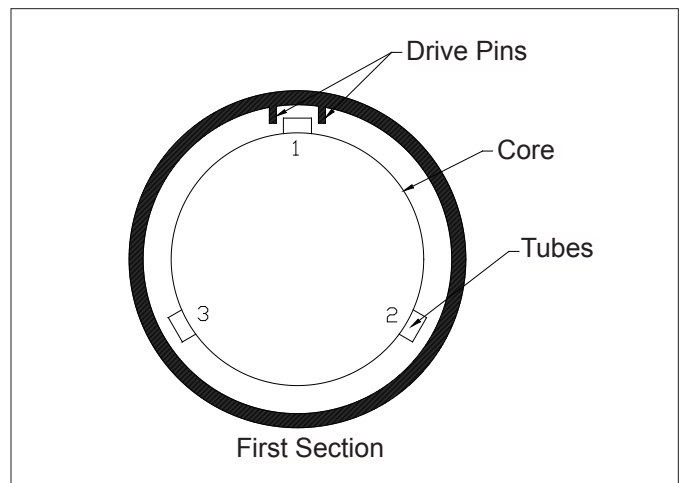

figure 1
- a. Number the drive locations on the core as 1, 2, and 3 (figure 1)
1. Place a pressure gauge, flow gauge and gate valve between the pump and the pressure line on the brush hood (figure 1).